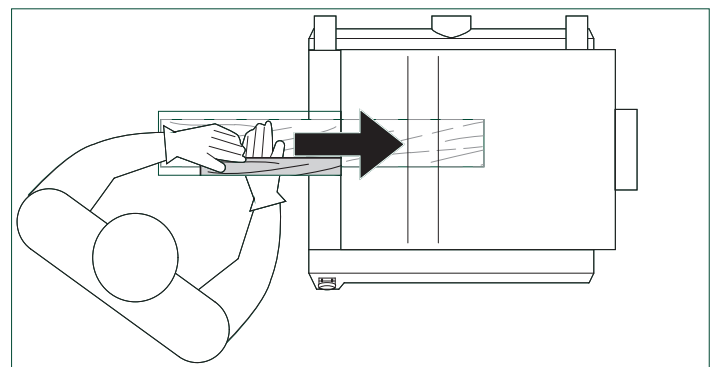

FIG. 47
- When planing, the feeding direction of the workpiece is left-to-right under the cutterhead. FIG. 47.
1. To feed the workpiece into the machine, assume proper operating position, FIG. 47. Stand offset to one side of the feed opening to avoid any kick-back, should it occur. Do not push the lumber once the infeed roller has been engaged. Let the infeed roller move the workpiece into the planer at its own pace.